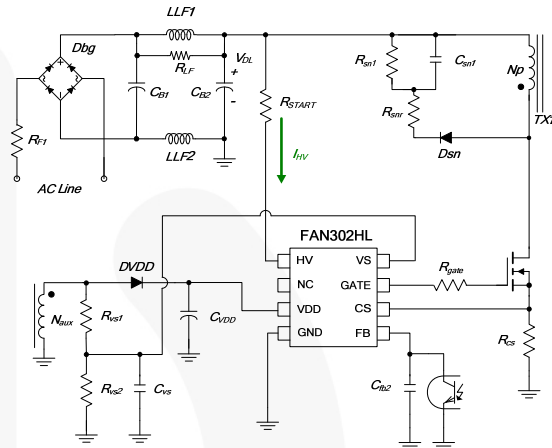

Figure 29. HV Startup Circuit
Figure 29 shows the high-voltage (HV) startup circuit for FAN302HL applications. The HV pin is connected to the line input or bulk capacitor through a resistor. During startup, the internal startup circuit is enabled and the line input supplies the current,  $I_{HV}$ , to charge the hold-up capacitor,  $C_{VDD}$ , through  $R_{START}$ . When the  $V_{DD}$  voltage reaches  $V_{DD-ON}$ , the internal HV startup circuit is disabled, blocking  $I_{HV}$  from flowing into the HV pin. Once the IC turns on,  $C_{VDD}$  is the only energy source to supply the IC consumption current before the PWM starts to switch. Therefore,  $C_{VDD}$  must be large enough to prevent  $V_{DD}$  from dropping to  $V_{DD-OFF}$  before the power can be delivered from the auxiliary winding.